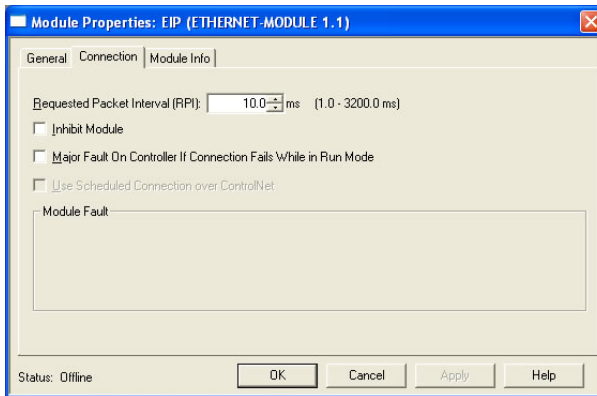

Figure 80: Module Properties Connection Tab
- 5) You should now see the new module (named “ETHERNET-MODULE ASD_G9ETH”) in the 1756-ENBT/A branch under the I/O Configuration in the controller organizer view. Right click on this new module, choose “Properties”, and select the Connection tab. Refer to Figure 80.